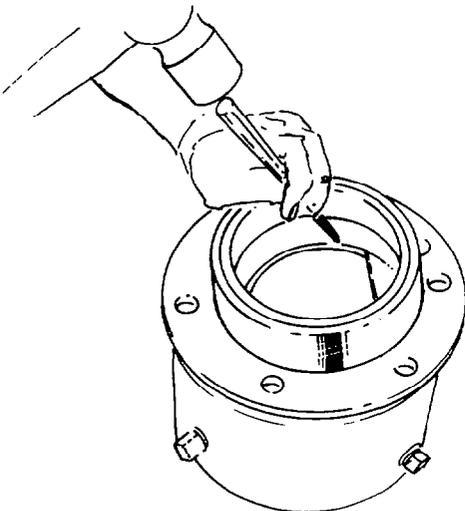

Fig. 277 — Removing Rear Bearing Cup
- q. Use a drift and hammer to remove the bearing cups from the bevel pinion housing (see figs. 277 and 278).